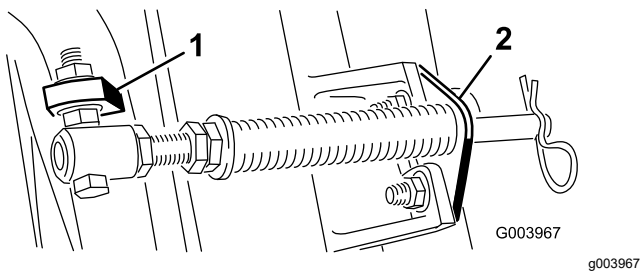
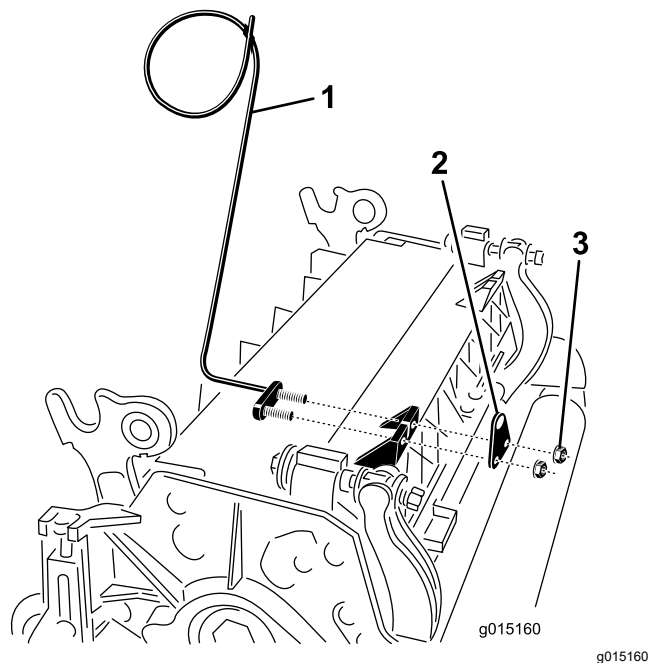

Figure 11
Figure 13
Note: Position the bolt head to the outer side of the tab as shown in Figure 11.
- E. Mount the rod bracket to the cutting unit tabs with the carriage bolts and nuts (Figure 11). On the cutting unit, mount the left hose guide to the front of the cutting unit tabs when reinstalling the rod bracket (Figure 13).